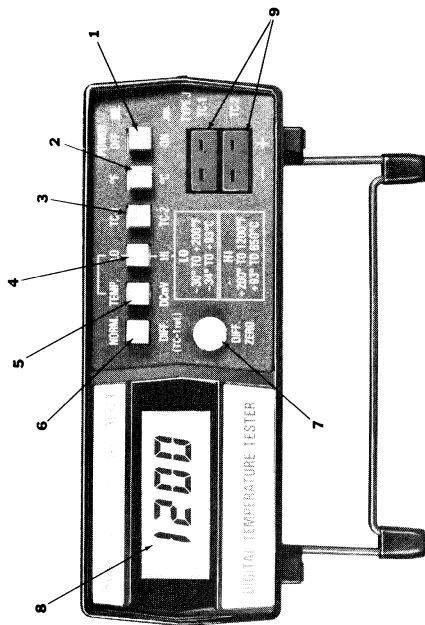

Figure 3-1. Front Panel Description
3.2.1 This section, consisting of Table 3-1 and Figures 3-1 and 3-2, will describe the proper function of the 383.